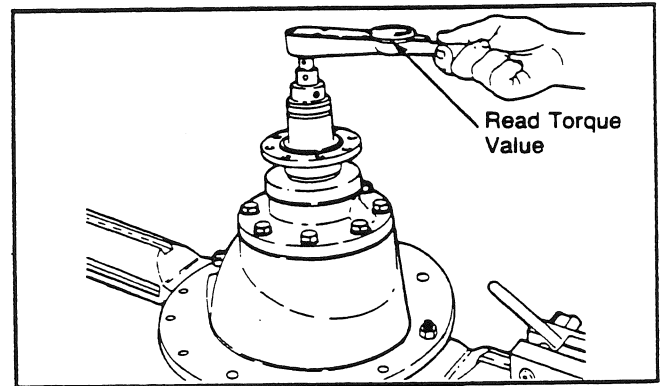

Fig. 40
5. Attach a dial indicator type torque wrench to the drive pinion nut. Turn the drive pinion and read the value shown on the dial (see Fig. 40). This value is the drive pinion bearing preload.